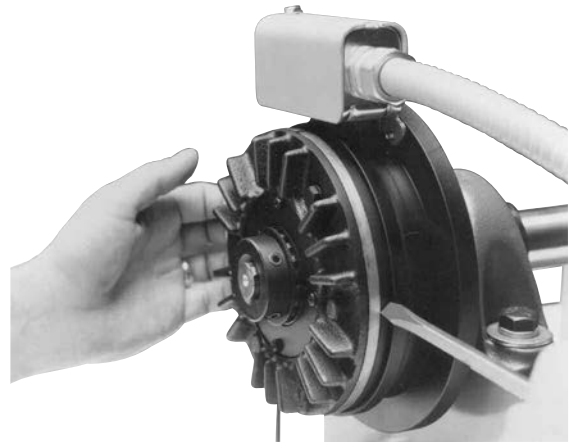

Figure 8
1. Move the clutch rotor towards the field for disassembly and reassembly. (See Figure 8)